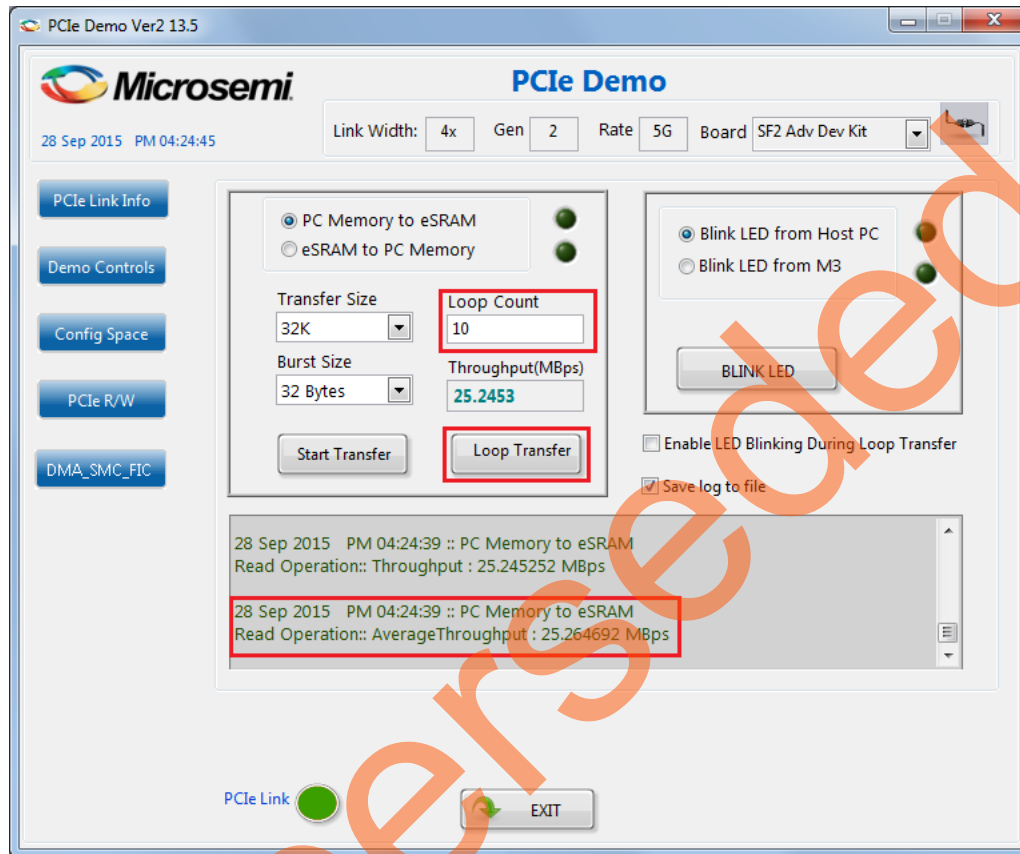

Figure 27 • Throughput in the DMA Transactions from the Host PC to eSRAM
19. Enter **10** in the **Loop Count** field and click **Loop Transfer** to perform 10 sequential DMA transactions. After completion of data transfer, the PCIe_Demo application displays the throughput. Figure 27 shows the throughput in DMA transactions from Host PC to eSRAM. The average throughput is also logged. The log file is stored in the Host PC at C:\PCIe_Demo\DriverInstall.